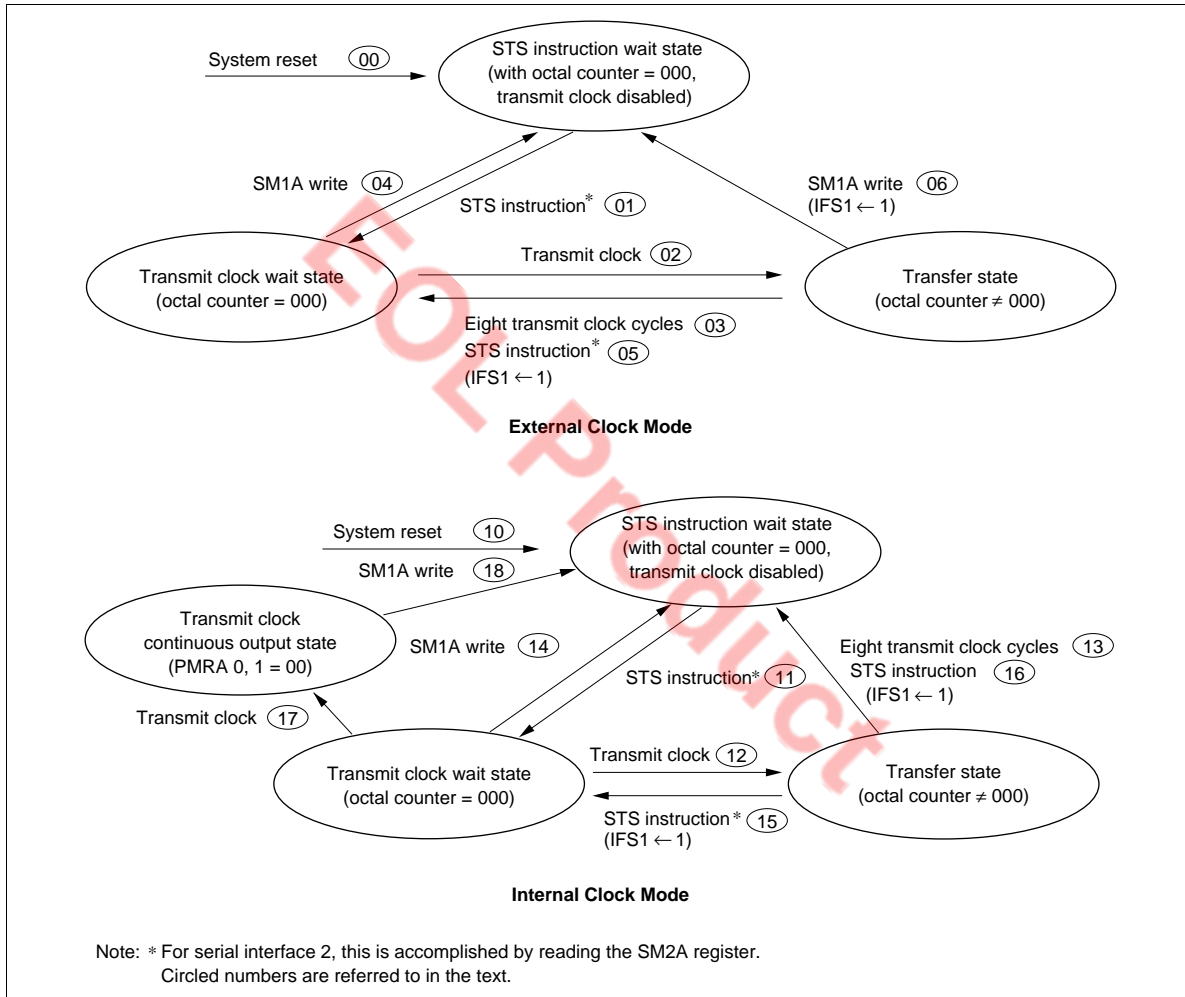

Figure 67 Serial Interface State Transition Diagram
Operating States: Serial interface 1 has the following operating states; transitions between them are shown in figure 67.
- **STS wait state:** The serial interface enters STS wait state by MCU reset (00, 10 in figure 67). In STS wait state, serial interface 1 is initialized and the transmit clock is ignored. If the STS instruction is then executed (01, 11), serial interface 1 enters transmit clock wait state.
- **Transmit clock wait state:** Transmit clock wait state is the period between the STS execution and the falling edge of the first transmit clock. In transmit clock wait state, input of the transmit clock (02, 12) increments the octal counter, shifts serial data register 1 (SR1L: \$006, SR1U: \$007), and puts the serial interface in transfer state. However, note that if continuous clock output mode is selected in internal clock mode, the serial interface does not enter transfer state but enters continuous clock output state (17).